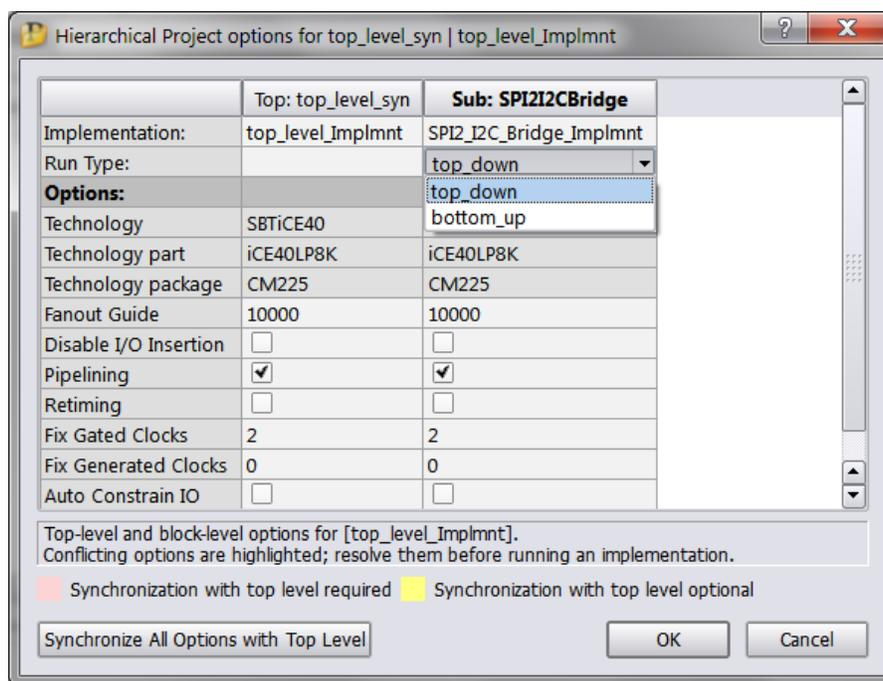

Figure 9-11: Set Hierarchical Project Options
- In the “Hierarchical Project Options”, specify the Sub-Project Implementation and set run type as “top_down” as shown in Figure 9-11. Click on the “Synchronize All Options with Top Level” icon to synchronize Sub-Project options with top-level project options.